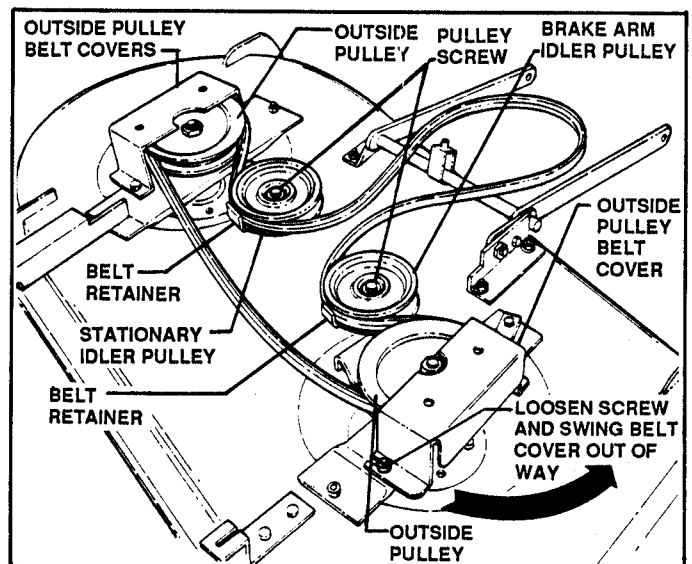

FIGURE 21
6. Route new belt around pulleys as shown in Figure 21.